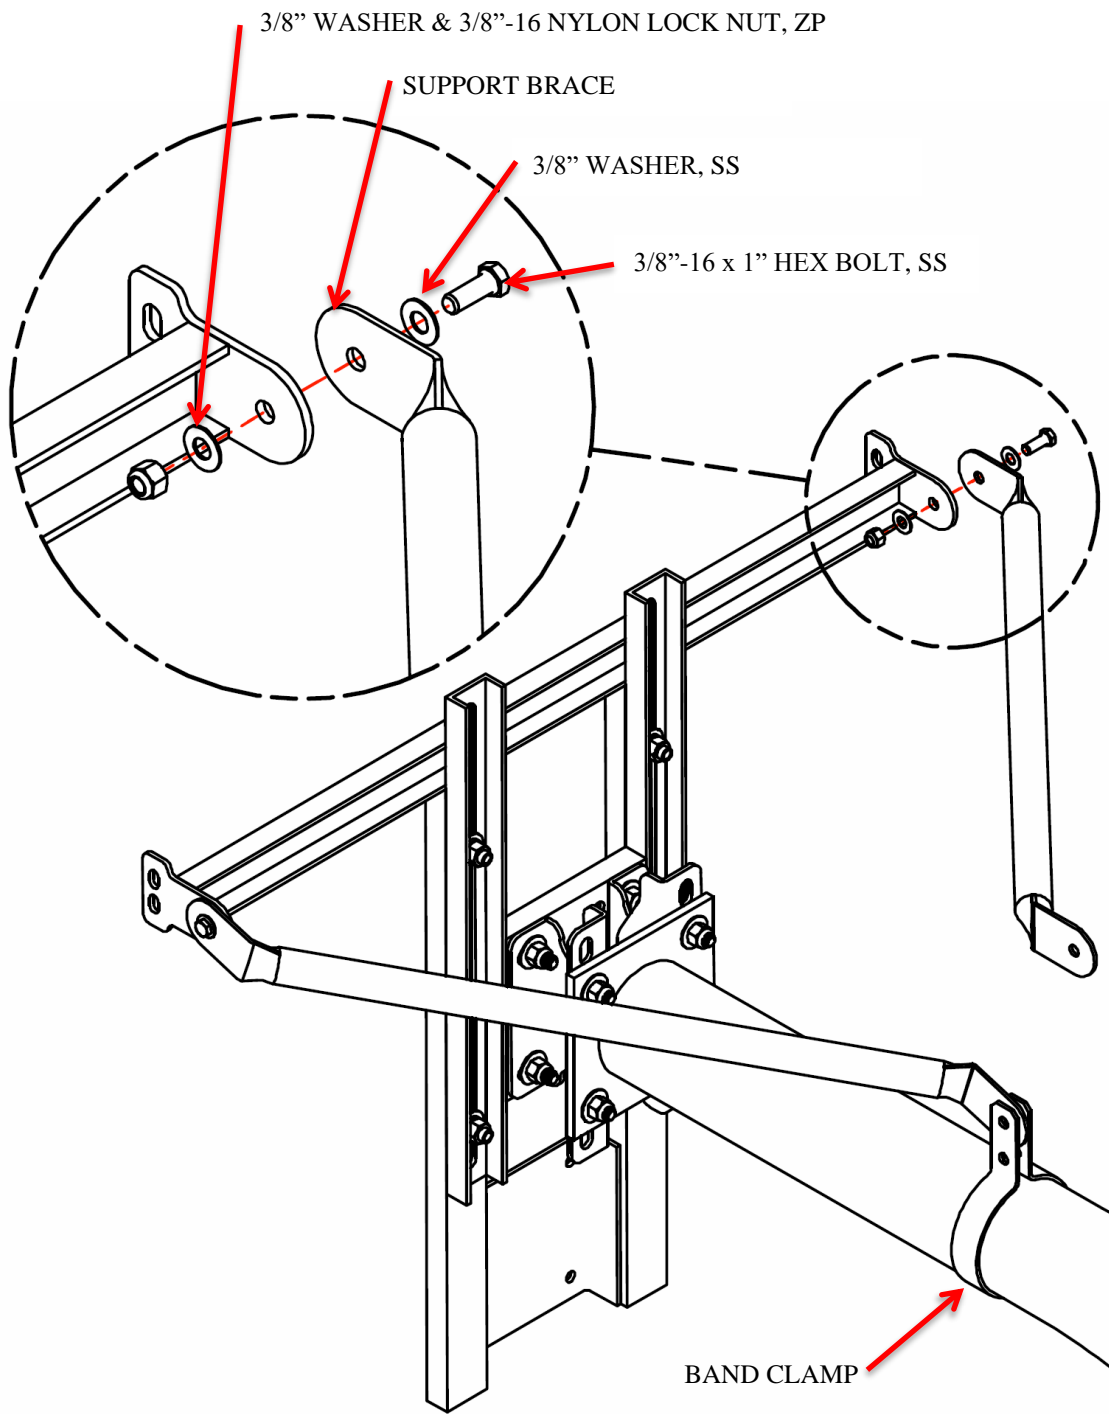

Figure 8
3. Assemble the two brace as shown (*Figure 8*). Maintain the plumb while assembling the band clamp to the upright pipe with 3/8" hardware. Lock the plumb in place by drilling 1/4" self-tap hex head screw into two sides of the band clamp & upright pipe as shown (*Figure 9*).